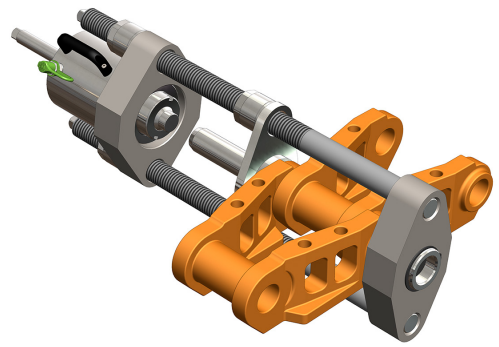

fig. 24
2. Open the pump release valve and allow the piston to return to its original position, fig 24.